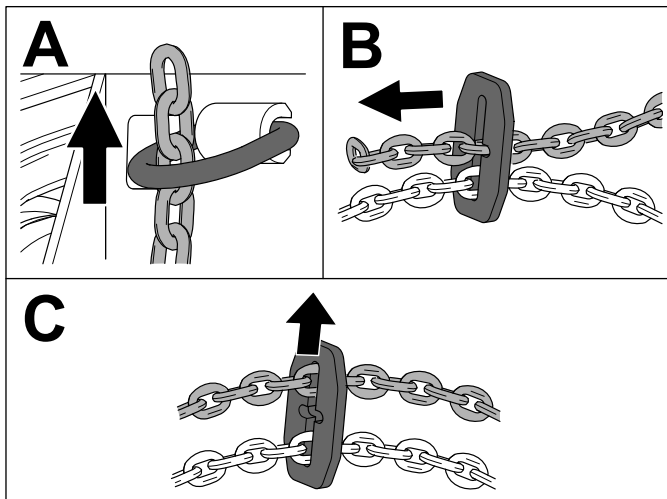

Figure 4
1. Loop the left and right chains through the left and right tie-down loops, respectively (Figure 4).
2. Insert the end of the chain through the retainer plate (Figure 4) and adjust the length of the chain so that the rear of the brush cutter cannot be lifted higher than 30 cm (12 inches) above the ground.
3. Secure the chain by pulling it to the edge of the retainer plate (Figure 4).